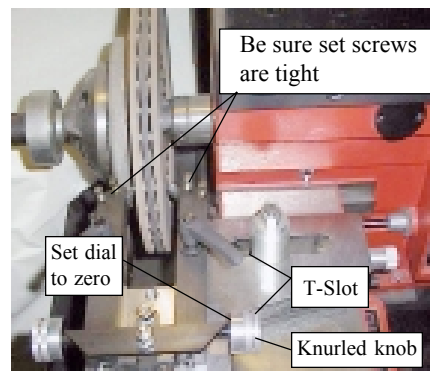

Figure 37 Groove simulated here.
10. Turn lathe on. If the rotor to be machined is rough and scored, with grooves no deeper than .010", move the cross slide until the cutter tip is opposite the deepest groove. Turn the knurled micrometer knob on the rotor truer until the cutter tip touches the bottom of the groove. Now turn the micrometer dial (next to the knurled knob) to zero. See Figure 37.